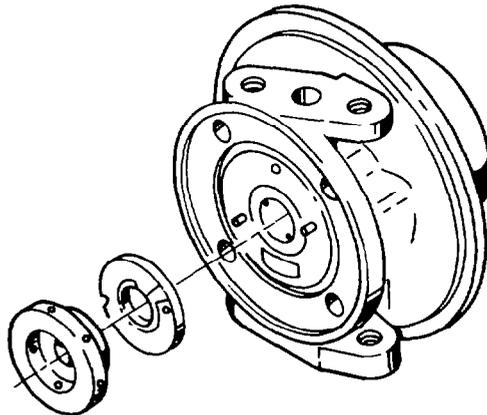

Fig. 152 — Installing Thrust Bearing and Thrust Collar
- g. Install the compressor end inboard circlip (item 16), wear washer (item 15) and journal bearing (item 13). Fit the thrust spacer (item 12) to the centre housing; the holes in the thrust spacer must engage the spring pins (item 14); fit the thrust collar (item 17) to the centre housing (see fig. 152).